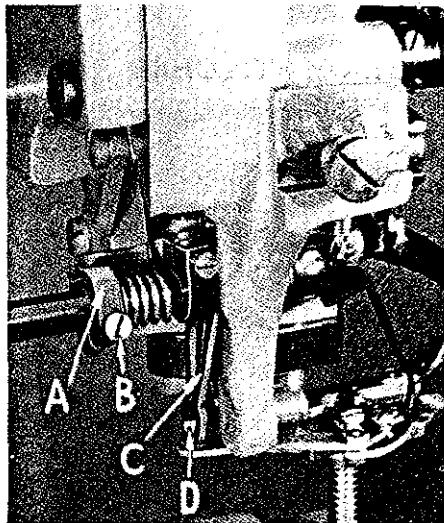
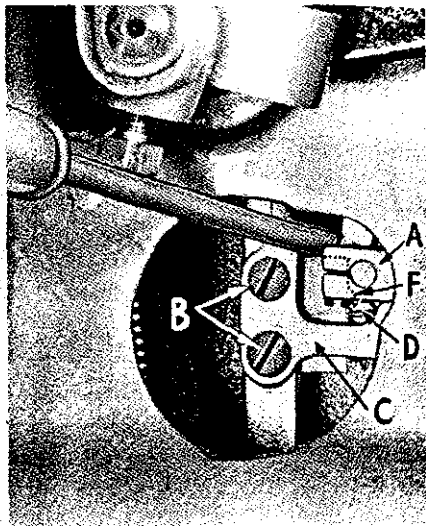
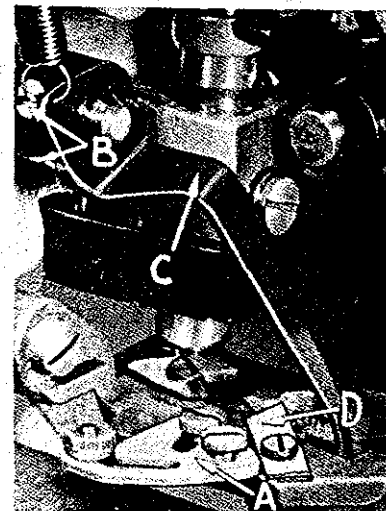

Fig. 12
Fig. 14
Fig. 13
Rotate the spring collar (A, Fig. 12), and tighten binding screw (B) when collar has been turned about 45° from zero tension.
With thread cutting finger (A, Fig. 13) at the back of its travel, set the trimmer lever (C, Fig. 12) so that it is over the center of the ball (D) from front
Check position of thread wiper crank (A, Fig. 14) through the access hole at the back of the machine. With the machine in stop position, this crank should be horizontal or slightly below to the right. If the crank is not in this position, loosen the two set screws (B, Fig. 13) in the thread wiper finger (C). Return to the back of the machine, and loosen the two screws (B, Fig. 14) in the cam plate (C), and move the crank (A) to the desired position. Now, slightly tighten one screw in the thread wiper finger (C, Fig. 13).
The screw stud in the crank (D, Fig. 14) should rest against the lower edge of the cam lobe (E) and against surface of the cam below the lobe. To do this, insert a screw driver through the opening in the cam plate, and using it as a lever, apply downward pressure to the cam while tightening the two screws (B) and maintaining the cam plate (C) in its proper
position to hold the crank (A) horizontally as previously described. Now, return to the thread wiper finger (C, Fig. 13), and check its position.
The thread cutting knife (D, Fig. 13) should be set forward in its slot enough to provide proper cutting action.